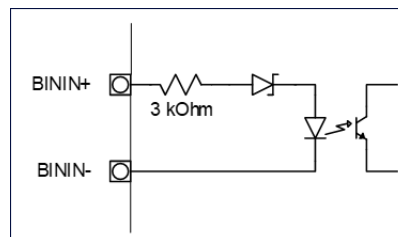
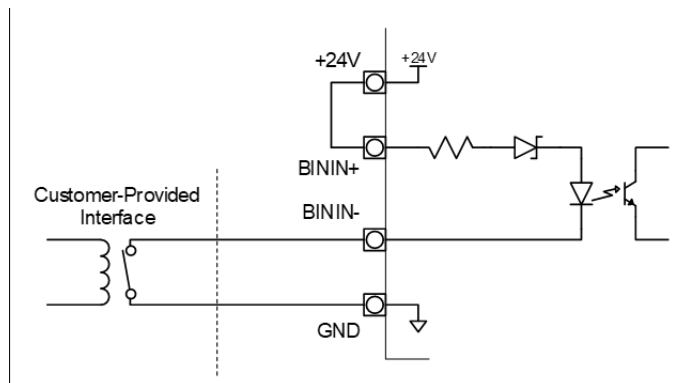

Figure 3-4: Isolated State Input Circuit Detail
Figure 3-5: Instrument-Powered Isolated State Input Circuit Application
- Binary (Start/Stop) Inputs — Table 3-3, "Isolated State Inputs \(J2\)," on page 67 and Figure 3-4: Isolated State Input Circuit Detail on page 67 and Figure 3-5: Instrument-Powered Isolated State Input Circuit Application on page 68.
The Sievers M500e TOC Analyzer has two isolated binary inputs. These can be wired in a variety of ways and are intended to execute a start/stop commands to the Analyzer from a remote location, such as a Process Logic Control (PLC) System or Center. Pin-out details are included in Table 3-3. Wiring examples are shown in "Figure 3-4: Isolated State Input Circuit Detail" on page 67 and "Figure 3-5: Instrument-Powered Isolated State Input Circuit Application" on page 68.